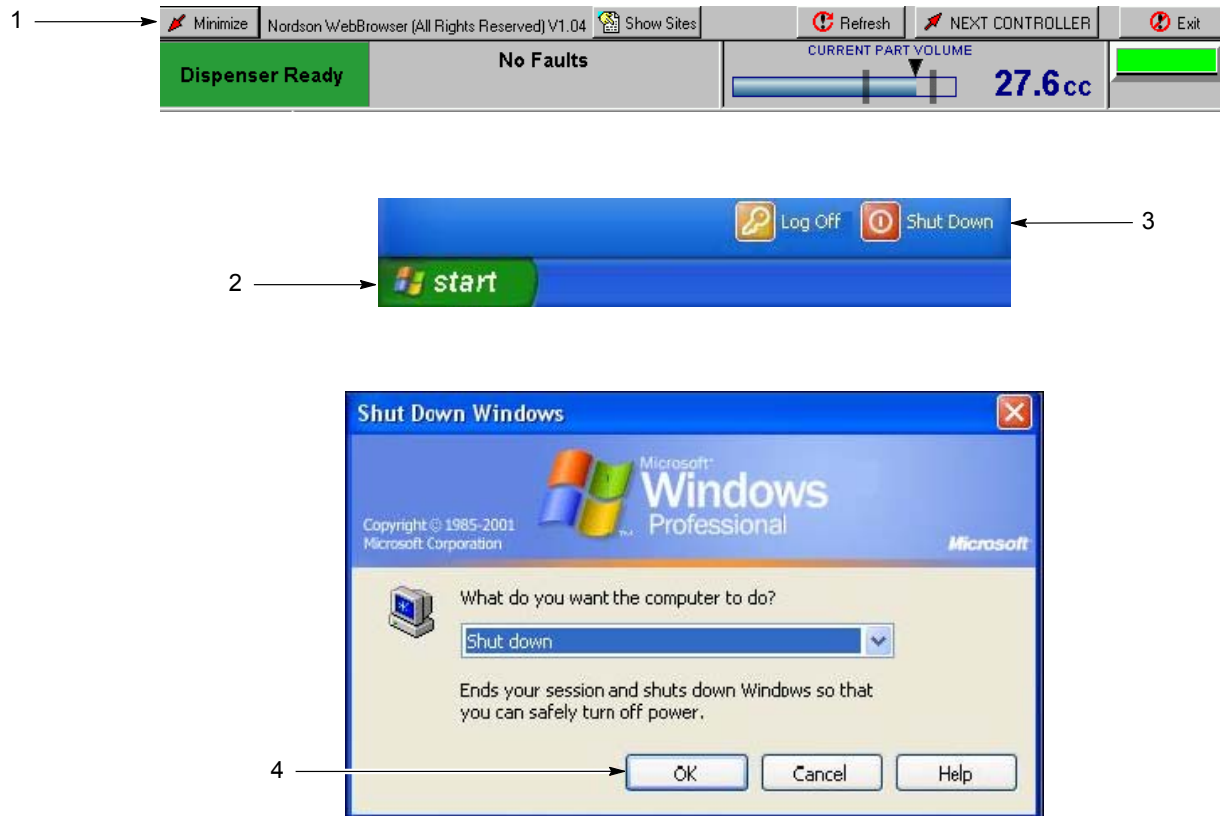

Figure 7 PCI Controller Shutdown
1. See Figure 7. Touch **Minimize** (1) at the top of a screen display.
2. Touch **start** (2) on the Windows task bar to access the **Start Menu**.
3. Touch **Shut Down** (3) on the **Start Menu**.
4. Make sure that **Shut Down** is displayed in the **Shut Down Windows** field. Touch **OK** (4).